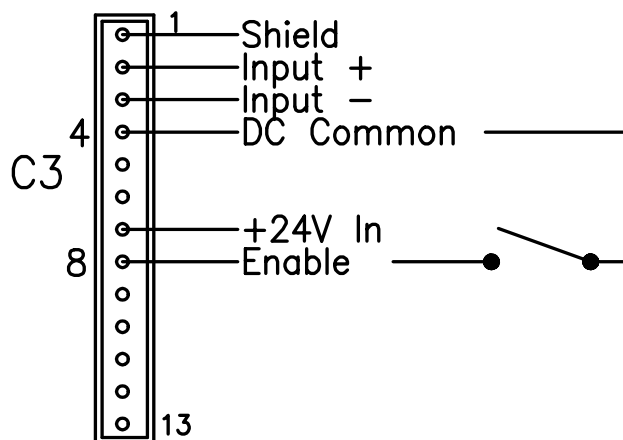

Figure 7. Enable Switch Wiring Diagram.
2. Wire the switch to pins 4 (DC Common) and 8 (Remote Enable Input) of User I/O Connector C3, see figure 7.